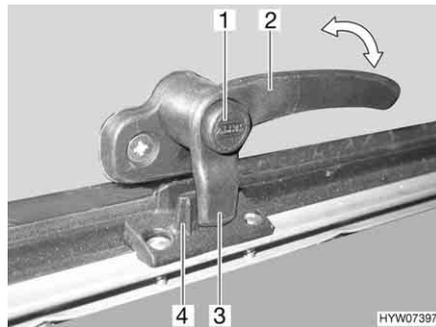
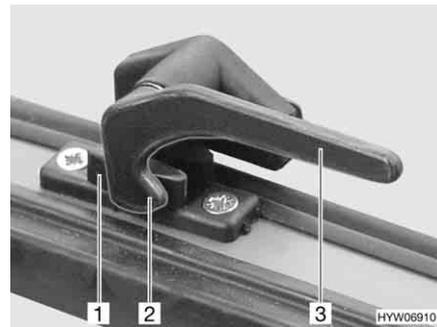

Fig. 79 Catch lever with safety knob in "closed" position
Fig. 80 Catch lever in "closed" position
- Press and hold the security button (Fig. 79,1), if present.
- Turn the catch lever (Fig. 79,2 or Fig. 80,3) a quarter turn towards the centre of the window.
- Turn the catch lever (Fig. 79,2 or Fig. 80,3) a quarter turn towards the window frame. The locking catch (Fig. 79,3 or Fig. 80,2) on the catch lever is entirely on the inner side of the window catch (Fig. 79,4 or Fig. 80,1).
- Firmly closed (Fig. 79 and Fig. 80)